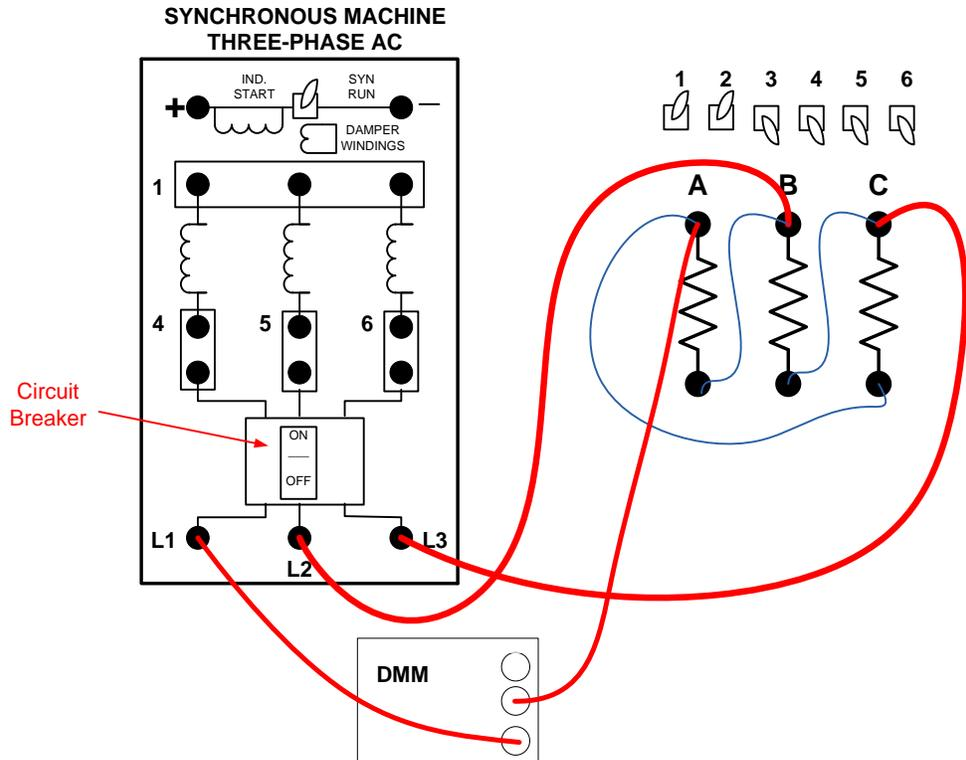

Figure 8
- Construct a three phase Wye-to-Delta AC circuit by connecting the AC generator outputs to their respective resistor load leads (RED / BLUE / BLACK – see Figure 8). Connect phase A output via the DMM (set to AAC) to phase a on the resistor load panel, so that it measures the line current, I_A .
- Ensure that the circuit breaker on the AC generator panel is “ON” (Figure 8).